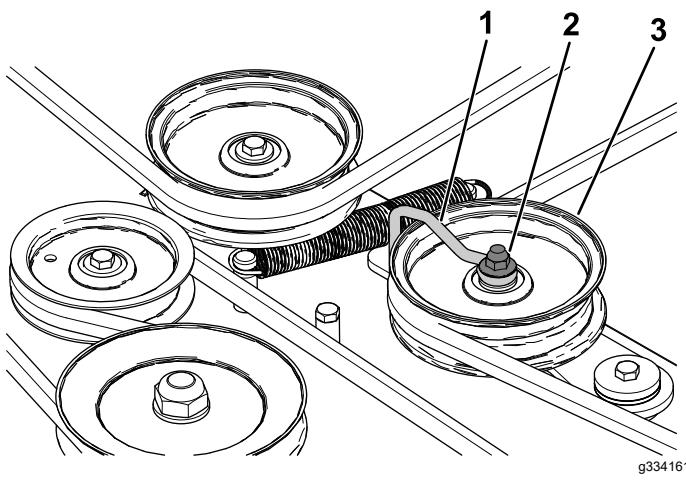

Figure 61
6. Loosen the nut securing the wire form to the idler pulley (Figure 61).
10. Tighten the nut securing the wire form to the idler pulley (Figure 61).
**Note:** Position the wire form against the idler arm as shown in Figure 61.